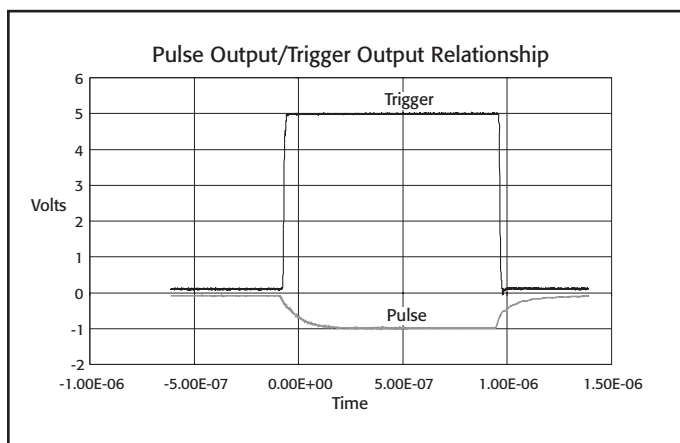

Figure 3
physics of the connections to the device. Keithley's optoelectronics applications engineers have addressed these issues by studying and documenting the optimum cable configuration to enhance measurement accuracy with extremely fast pulses. **Figure 3** illustrates the results of a typical pulse LIV sweep test with the Model 2520. In this test, a 100-point pulsed LIV sweep using a  $1\mu\text{s}$  pulse width, at 1% duty cycle, was completed in just 110ms (including data transfer time), several orders of magnitude faster than existing, semi-custom test systems.
**Figure 3.** This plot illustrates the Model 2520's pulsed LIV sweep capability. The sweep was programmed from 0 to 100mA in 1mA steps. Pulse width was programmed at  $1\mu\text{s}$  at 1% duty cycle, providing for a complete sweep in just 10ms (excluding data transfer time).
Pulse Trigger Out BNC: +5V, 50 $\Omega$  output impedance, output trigger corresponding to current source pulse; pulse to trigger delay <100ns. See Figure 3.